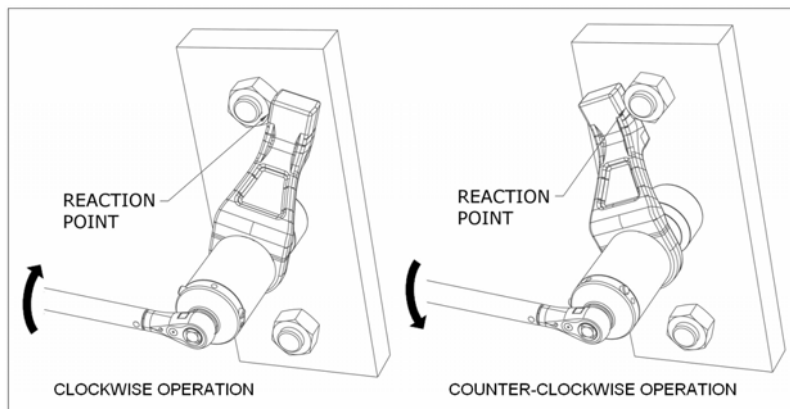

FIGURE 3
When the Handtorque™ is in operation, the reaction bar rotates in the opposite direction to the output drive square and must be allowed to rest squarely against a solid object or surface adjacent to the bolt to be tightened, see Figure 3.
FAILURE TO OBSERVE THE LIMITATIONS SHOWN IN FIGURE 3 WHEN MODIFYING STANDARD REACTION PLATES OR MAKING SPECIALS MAY RESULT IN PREMATURE WEAR OR DAMAGE TO THE MULTIPLIER OUTPUT DRIVE.
2. Fit the multiplier to the bolt with the reaction bar adjacent to the reaction point. See Figure 3.